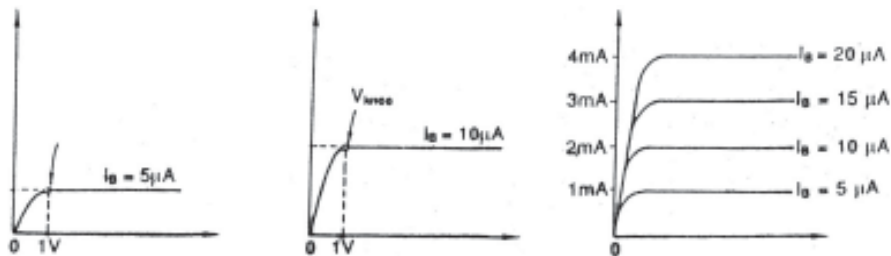

Fig 1.26
**Common Base****Fig 1.25****Fig 1.26**